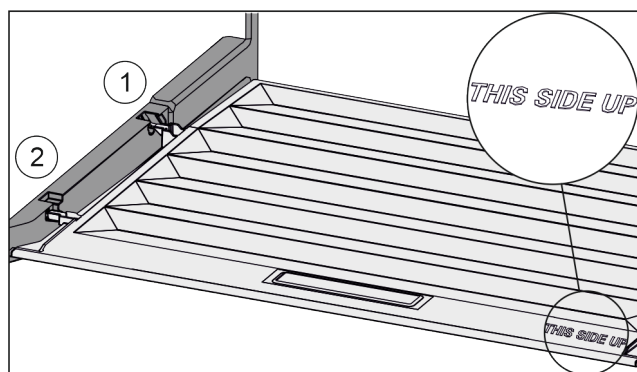

Fig. 67
- ▶ Insert the lip of the cover over the opening of the rear bracket Fig. 67 (1) and click into place Fig. 67 (2).